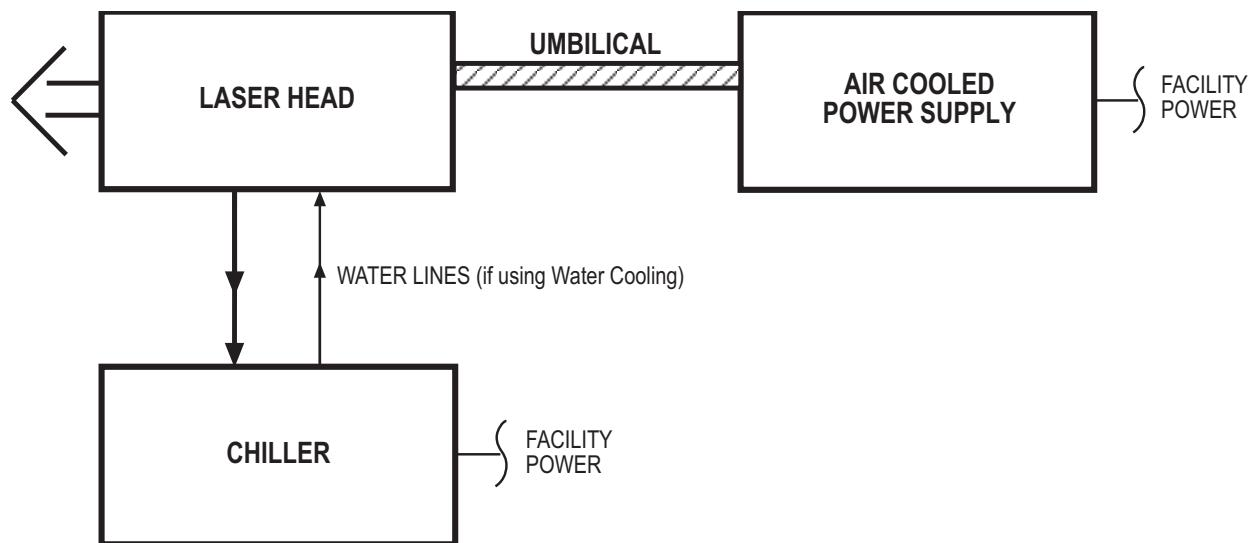

Figure 3-6. Interconnect Diagram
3. Cut the user-supplied cooling water lines to the appropriate lengths and use the water line hardware (Figure 3-1, item 9) to connect the riser/heat sink to the chiller (Figure 3-6). Apply teflon tape to the hardware threads and install the washers from the installation kit over the threads when connecting the stainless steel ferrule to the riser/heat sink. Check the system for leaks.